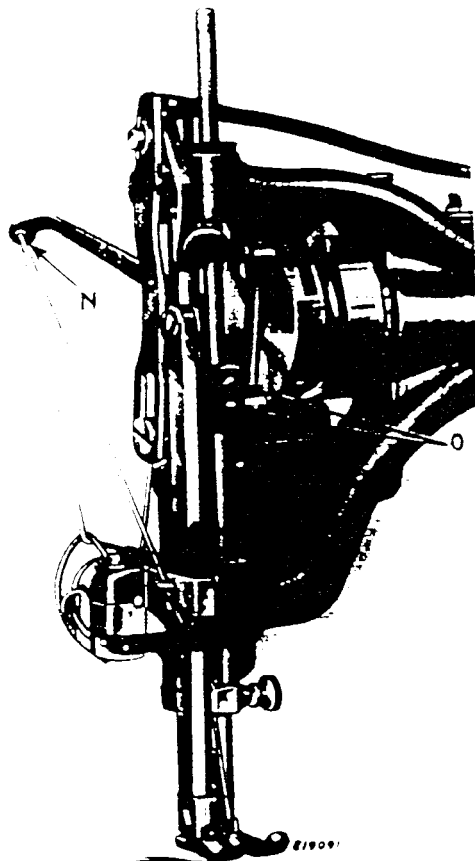

Fig. 17. Setting the Needle Bar
To adjust, loosen the two set screws (O, Fig. 17) and move the needle bar up or down as required, then securely tighten the set screws (O).
For general sewing conditions, the feed dog should be so timed that it will have completed its feeding action at approximately the same time that the take-up lever (N, Fig. 17) completes its upward stroke.